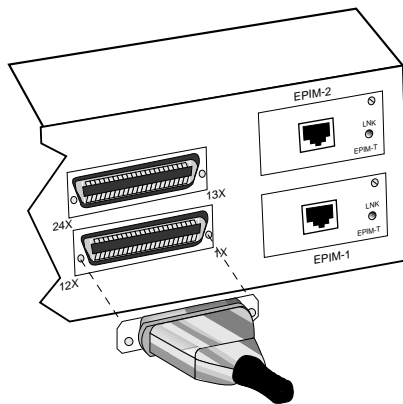

Figure 4-2. SEH-32/34 Network Ports
1. Connect a 50-pin feeder cable to the Champ connector on the SEH as shown in Figure 4-2.